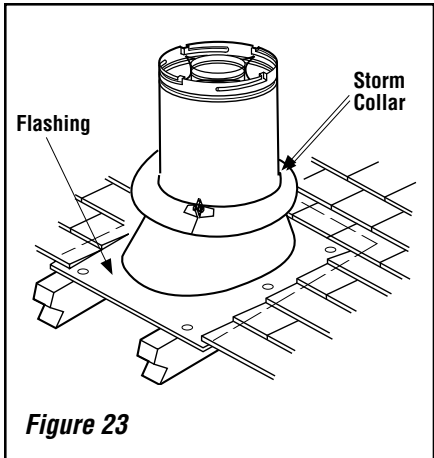

Figure 23
I. Install the roof flashing - Extend the vent sections through the roof structure. Install the roof flashing over the vent section and position such that the vent column rises vertically (use carpenter's level) (**Figure 23**). Nail along perimeter to secure flashing or adjust roofing to overlap the flashing edges at top and sides only and trim where necessary. Seal the top and both sides of the flashing with waterproof caulking.
J. Install the storm collar - Install the storm collar, supplied with the flashing, over the vent/ flashing joint (see **Figure 23**). Loosen the storm collar screw. Slide collar down until it meets the top of the flashing. Tighten the adjusting screw. Apply non-combustible caulking or mastic around the circumference of the joint to provide a water tight seal.